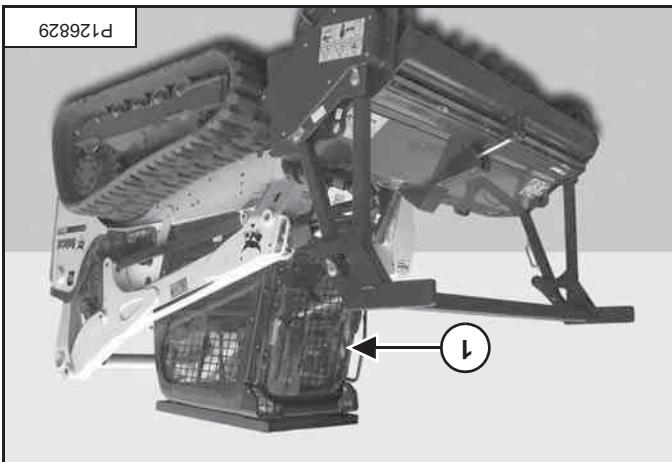

Figure 86
Close the forestry door (item 1) [Figure 86].